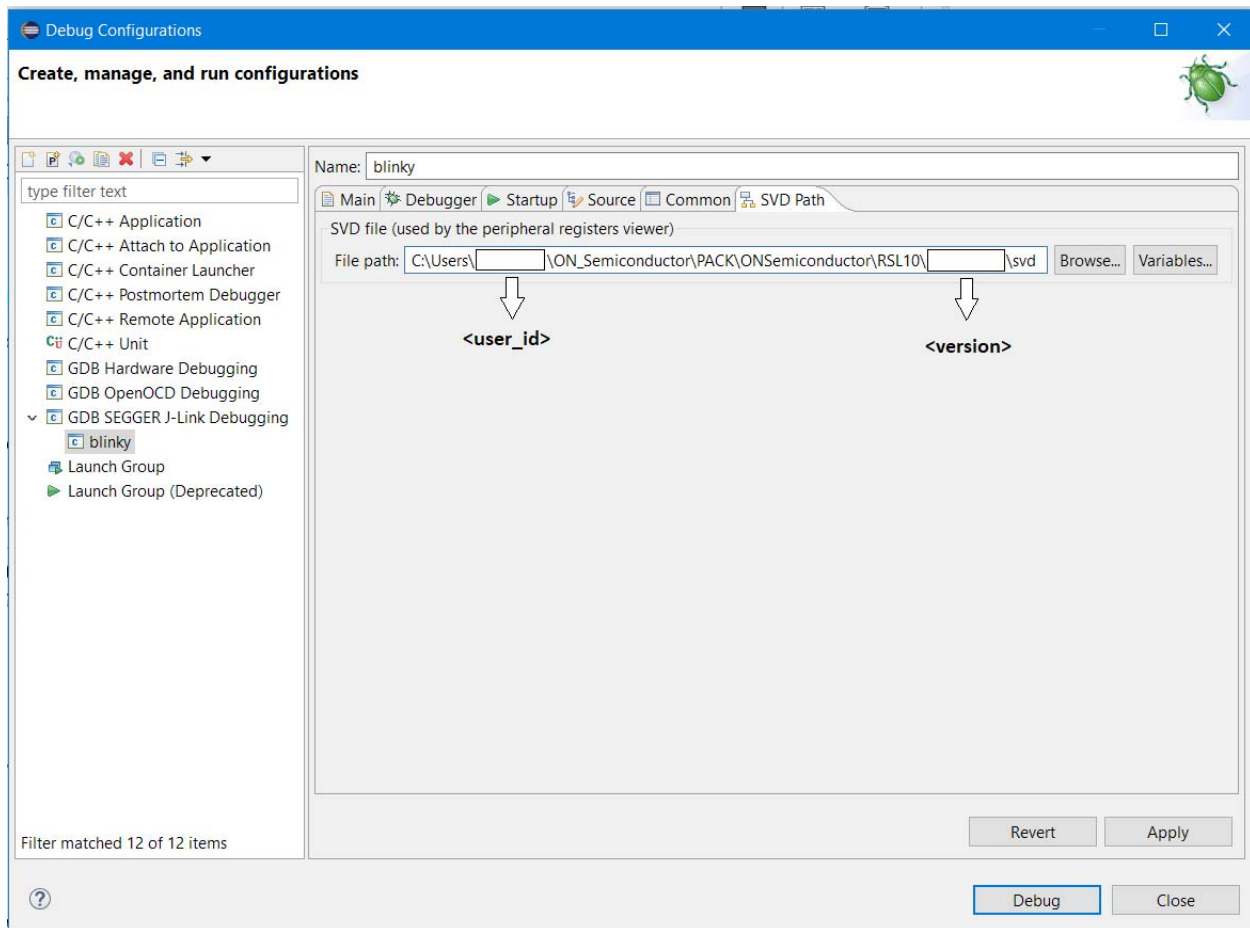

Figure 12. SVD Path Tab Debug Perspective
2. Change to the **SVD Path** tab, and set the path to the *rsl10.svd* file as `C:\Users\<username>\AppData\Local\Arm\Packs\ON Semiconductor\RSL10\<version>\svd\rsl10.svd` (see Figure 12). Click **Debug**.